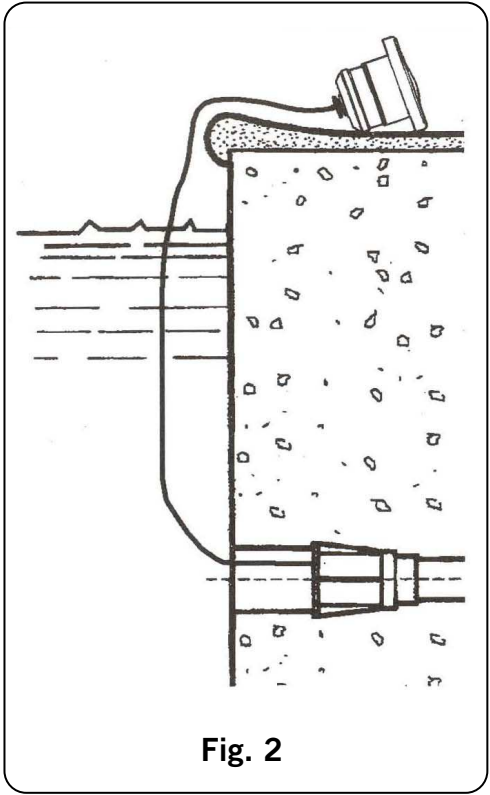
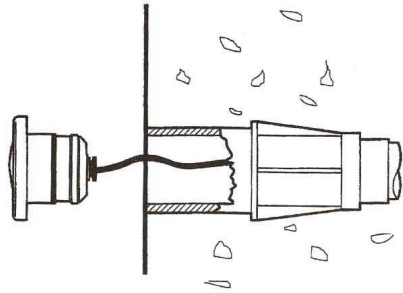

Fig. 2
Fig. 6
3. Feed the light cable through the conduit (Fig. 6). Leave enough length of cable in order to be able to remove the floodlamp to the border of the swimming pool (Fig. 2).
Take the precaution of leaving 1.5 m of cable wound on the body of the floodlamp in order to be able to remove the floodlamp to the edge of the pool in the event that handling is required (Fig. 2).
Insert the cable in the cable duct. Then, tighten the nut on the cable duct. Take the precaution of leaving 1.5 m of cable wound on the body of the floodlamp (Fig. 11) in order to be able to remove the floodlamp to the edge of the pool in the event that handling is required (Fig. 2).